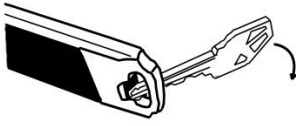

Figure 1
1. With a key or small screwdriver, push up on the black tab located at the bottom of the remote (fig.1) and slide the chrome trim off.